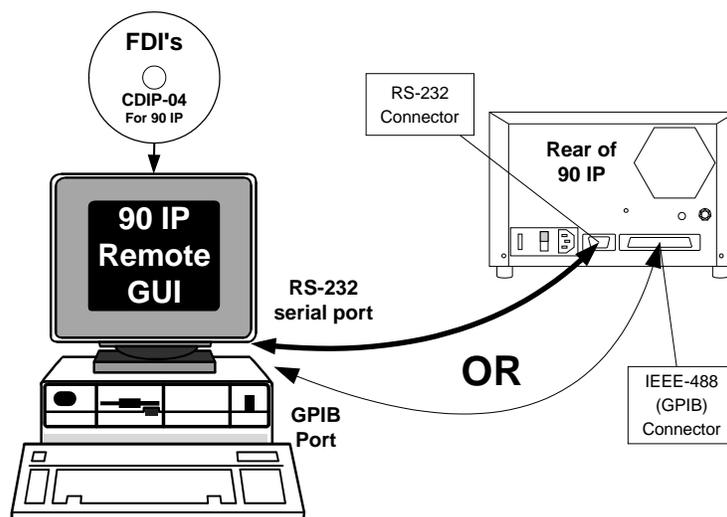
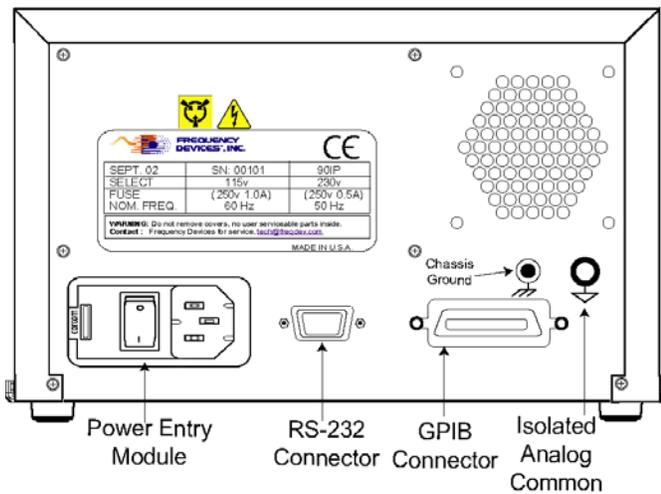

Figure 1.3 – GPIB & RS-232 Interconnection
Figure 2.1b – 90IP Rear Panel
See **Figure 1.3** for the typical GPIB & RS-232 setups,
The Model 90IP consists of a chassis, controller, and space for up to four smartSLOT, slot cards that interface directly with a remote control PC, fitted with RS232 or a GPIB or interface card. 90IP controller connectors are shown in **Figures 2.1b & 2.1c**. Standard GPIB or RS-232 cable connections are shown in **Figure 1.3**.
3.4 – AC Line Voltage Selection (90IP) - See Figure 2.1B